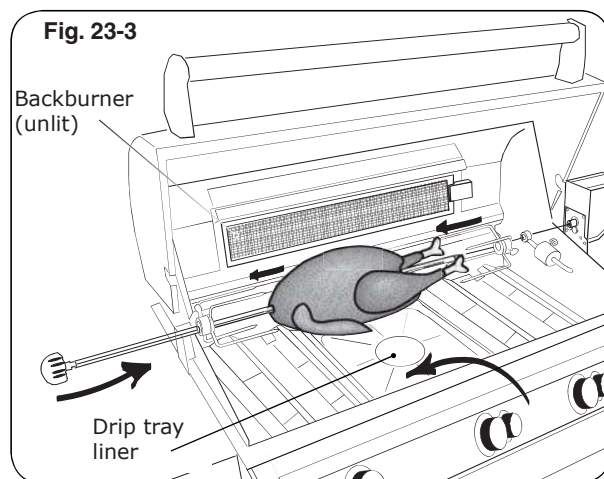

Fig. 23-3
4. Slide the left meat holder onto the rod (and tighten), the meat onto the rod and into the holder, followed by the right meat holder onto the rod and into the meat as shown in Fig. 23-3. Tighten the right meat holder. Be sure the meat is centered and balanced as well as possible.
9. To keep drippings off the burners and simplify cleanup, place Fire Magic® drip tray liners under the meat, if desired (Fig. 23-3).